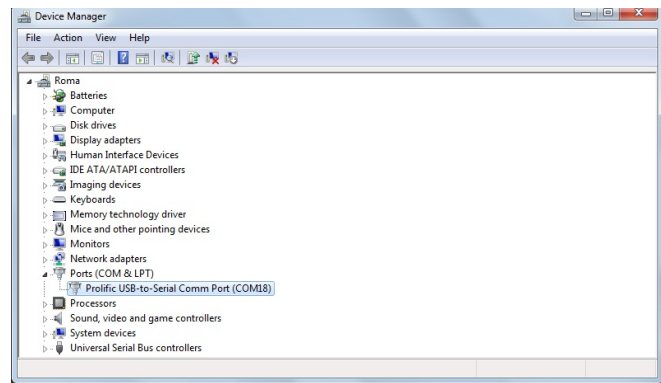

Fig 3. the device manager where you can see the COM number assigned for your Arduino IDE Serial Port.
1. Go to the "Device manager". (Fig 3.)